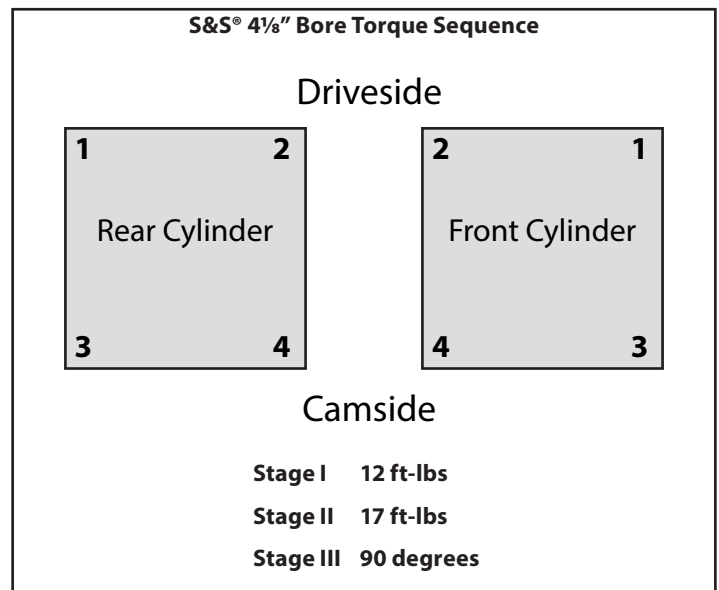

Figure 1
7. Torque bolts to in same pattern used to install heads during engine assembly. **See Figure 1.** Tighten bolts in following stages: